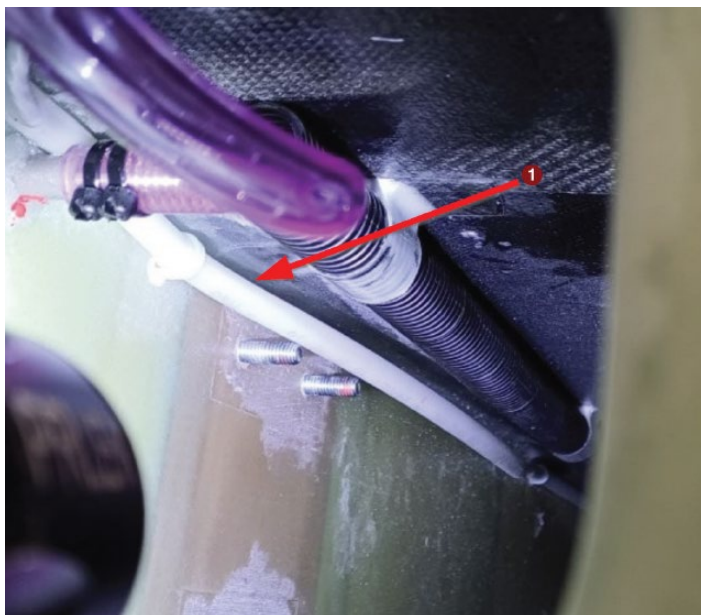

Figure 13 - Wingtip light wiring tube
6. Carefully push wiring tube (if installed) of wingtip lights away (index 1 on Figure 13) and remove bell crank assembly from wing.